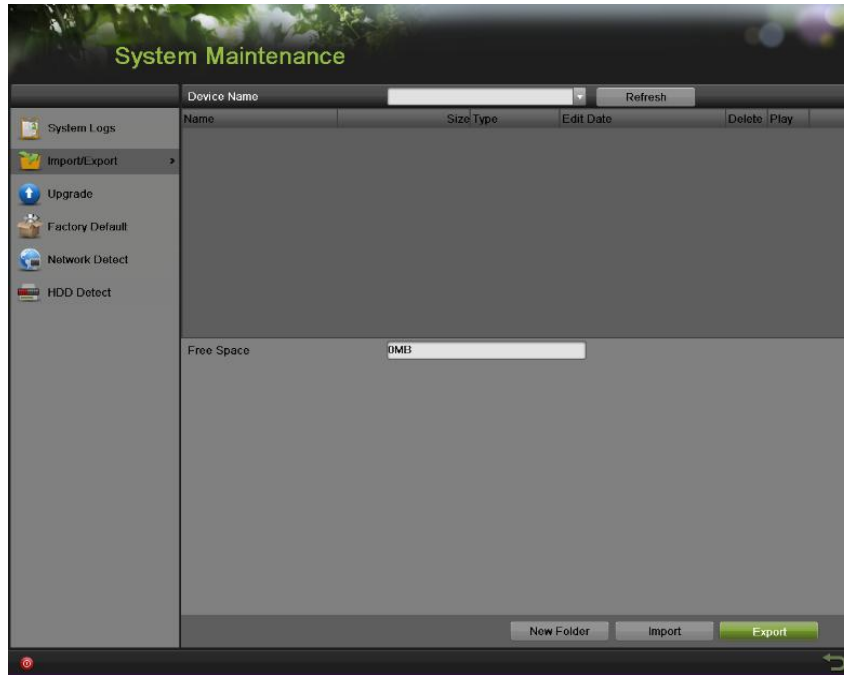

Figure 172 Import/Export Menu
1. Enter the Import/Export menu, shown in Figure 172 by going to Menu > Maintenance > Import/Export.